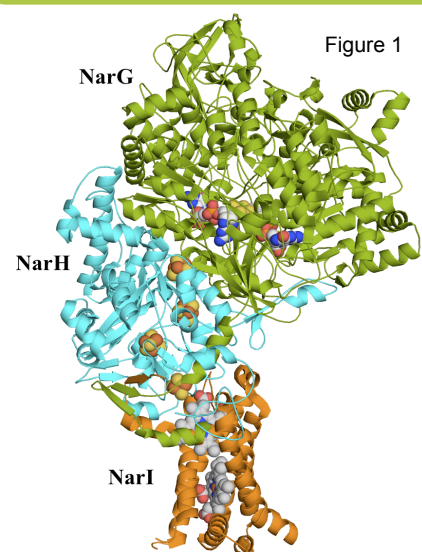

Figure 1
- Study of respiratory nitrate reductase (Figure 1 & 2) from *Marinobacter hydrocarbonoclasticus* 617, enzyme involved in bacterial respiration of nitrate catalysing the first step of denitrification.